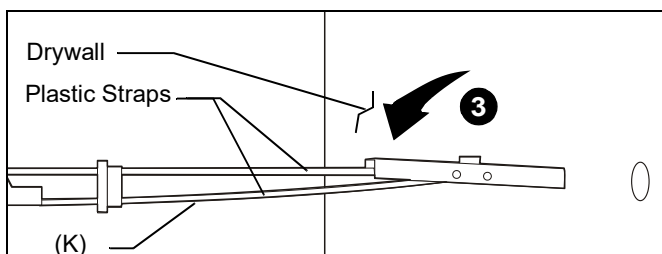

Figure 14
3. Hold metal channel on anchor (K) flat alongside plastic straps and slide channel through hole. (See Figure 14)